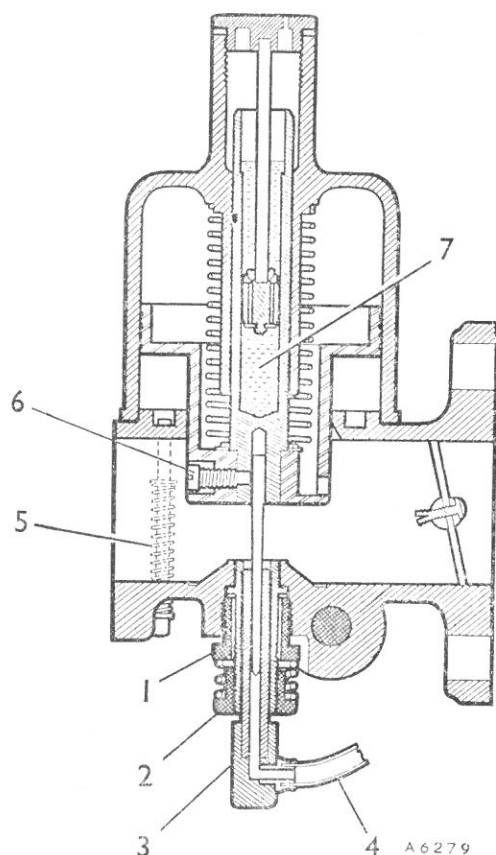

Fig. D.7
jet bridge with a soft, metallic click—that is, with the jet adjusting nut (2) (Fig. D.7) in its topmost position.
- (1) Disconnect the rod between the jet lever and the jet head (3) (Fig. D.7).
- (2) Unscrew the union holding the nylon feed tube into the base of the float-chamber, and withdraw the tube and jet together. Unscrew the jet adjusting nut and remove the lock spring. Replace the adjusting nut and screw it right up to its topmost position, then replace the jet and feed tube.
- (3) Slacken off the large jet locking nut (1) (Fig. D.7) until the jet bearing is just free to rotate by finger pressure.
- (4) Remove the piston damper and press the piston down onto the bridge. Tighten the lock nut.
- (5) Lift the piston and note whether it falls freely; fully lower the adjusting nut and check again. If the second check produces a sharper click than the first, repeat the centring.
- (6) Refit the parts that have been removed, pour thin oil into the hollow rod of the piston damper to within .5 in. (12.7 mm.) of the top of the rod.